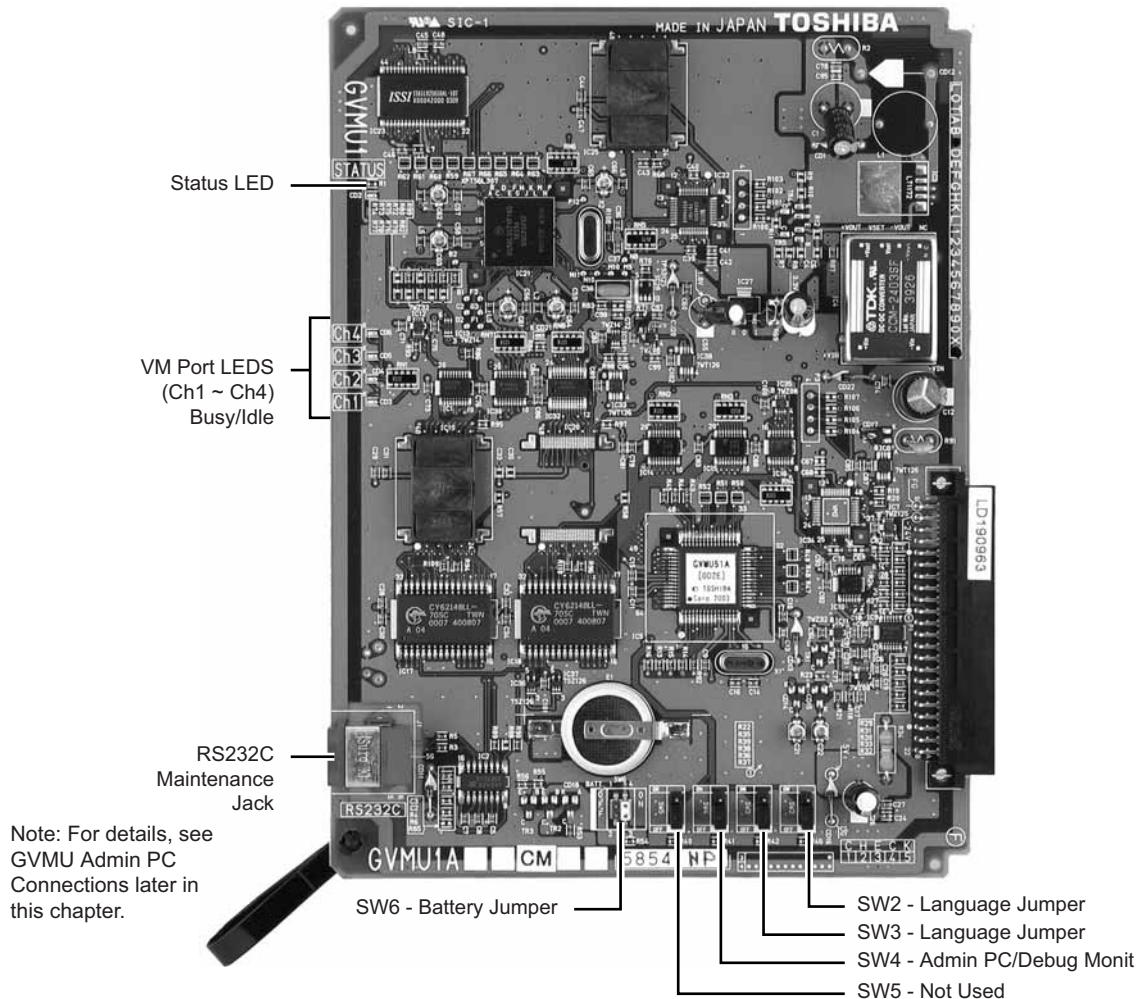

Figure 1-9 Close Up of PCB Stopper for GCTU and GVMU
2. On the GVMU, set the SW6 battery jumper to ON and set the Greeting language switch (Figure 1-9). Default language is “English.” See Table 1-6 for other language settings.